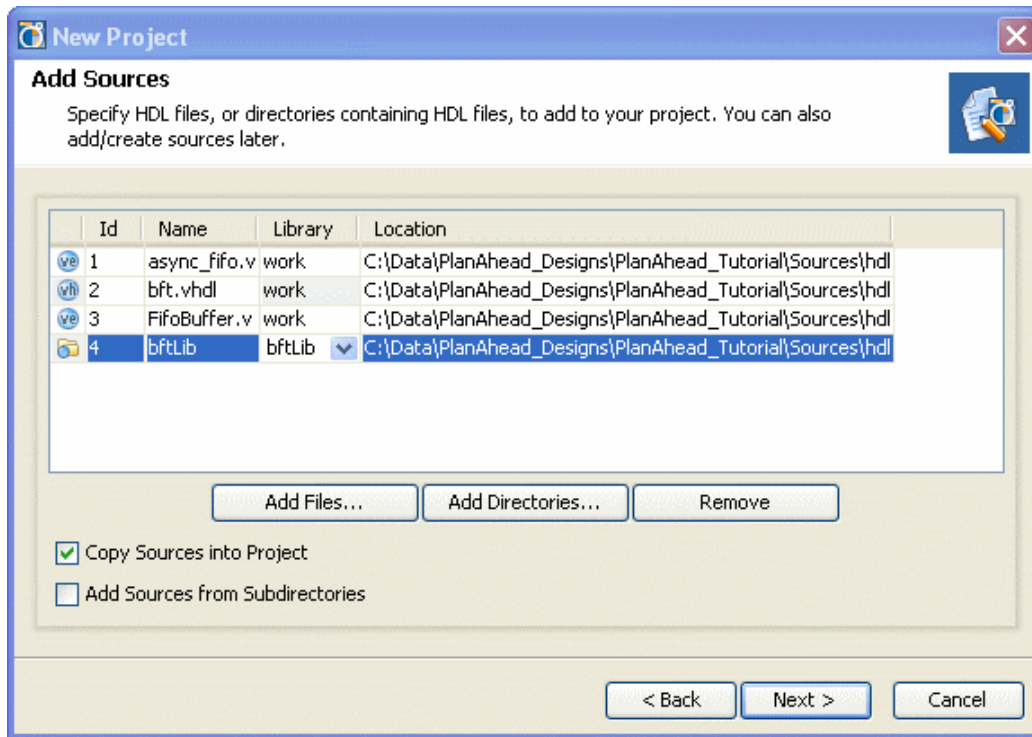

Figure 5: Selecting Sources to Add to the Project
The Add/Create Sources page opens (Figure 5).
- 1-3-7.** Verify that the page looks like Figure 5.